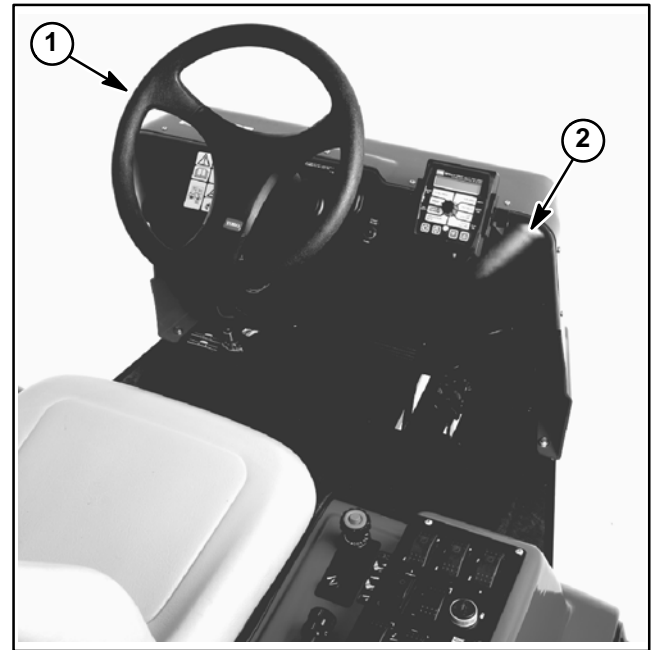

Figure 23
2. Remove screws that secure dash panel to front hood (Fig. 23). Carefully slide dash panel up steering column to allow access to steering control valve.
4. Position dash panel to front hood and secure with removed fasteners (Fig. 23).